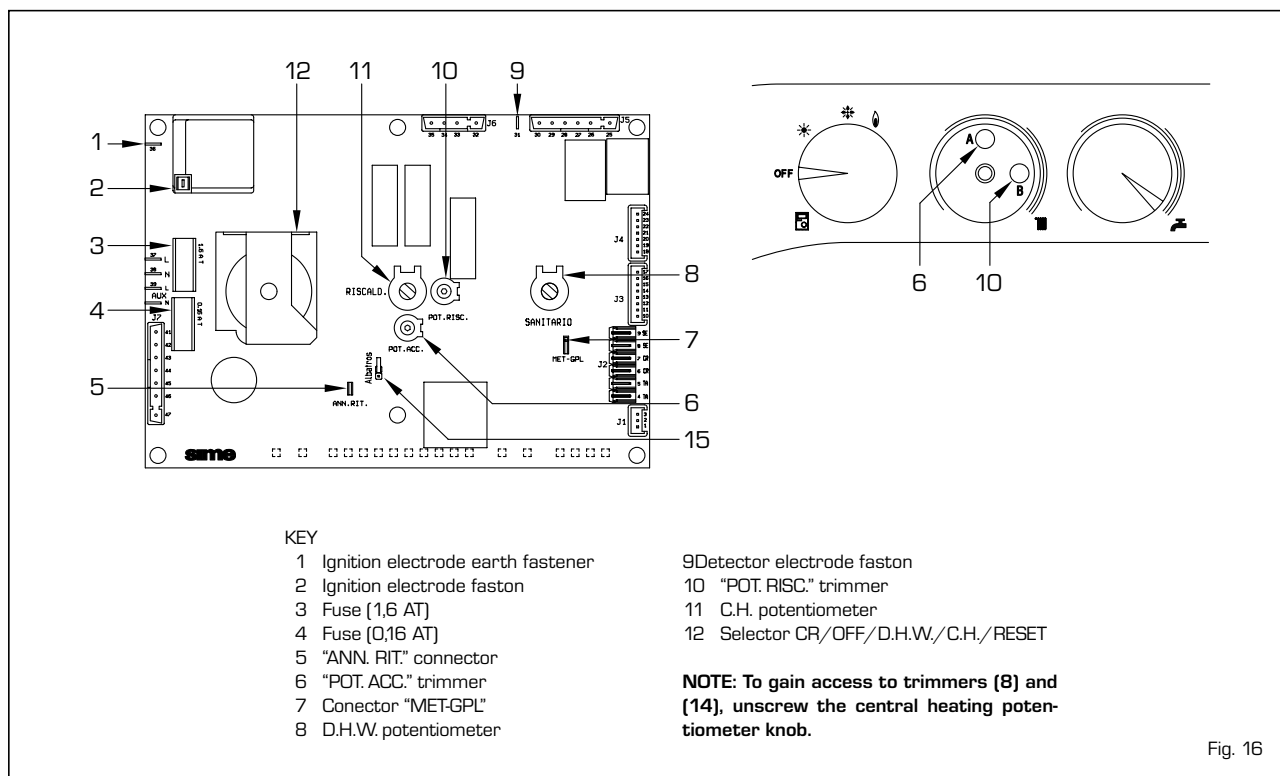

Fig. 16
Upon demand for heating from the room temperature stat or climatic controller "Logica Remote Control", the circulation pump is activated, and approximately 90 seconds must elapse for the burner to start operating. This will happen only if the temperature is set above the value detected by the heating sensor. The heat output can be varied according to the system needs by adjusting the trimmer (14 fig. 16). At start-up of each working cycle, after the period of slow ignition having a duration of approx. 3 sec, the boiler will set itself at the heat output set on the trimmer.
- "POT. RISC." trimmer (14 fig. 16)
- "POT. ACC." trimmer (8 fig. 16)
- "MET-GPL" connector (11 fig. 16)
- "ANN. RIT." connector (7 fig. 16):
put trimmer (14 fig. 16).